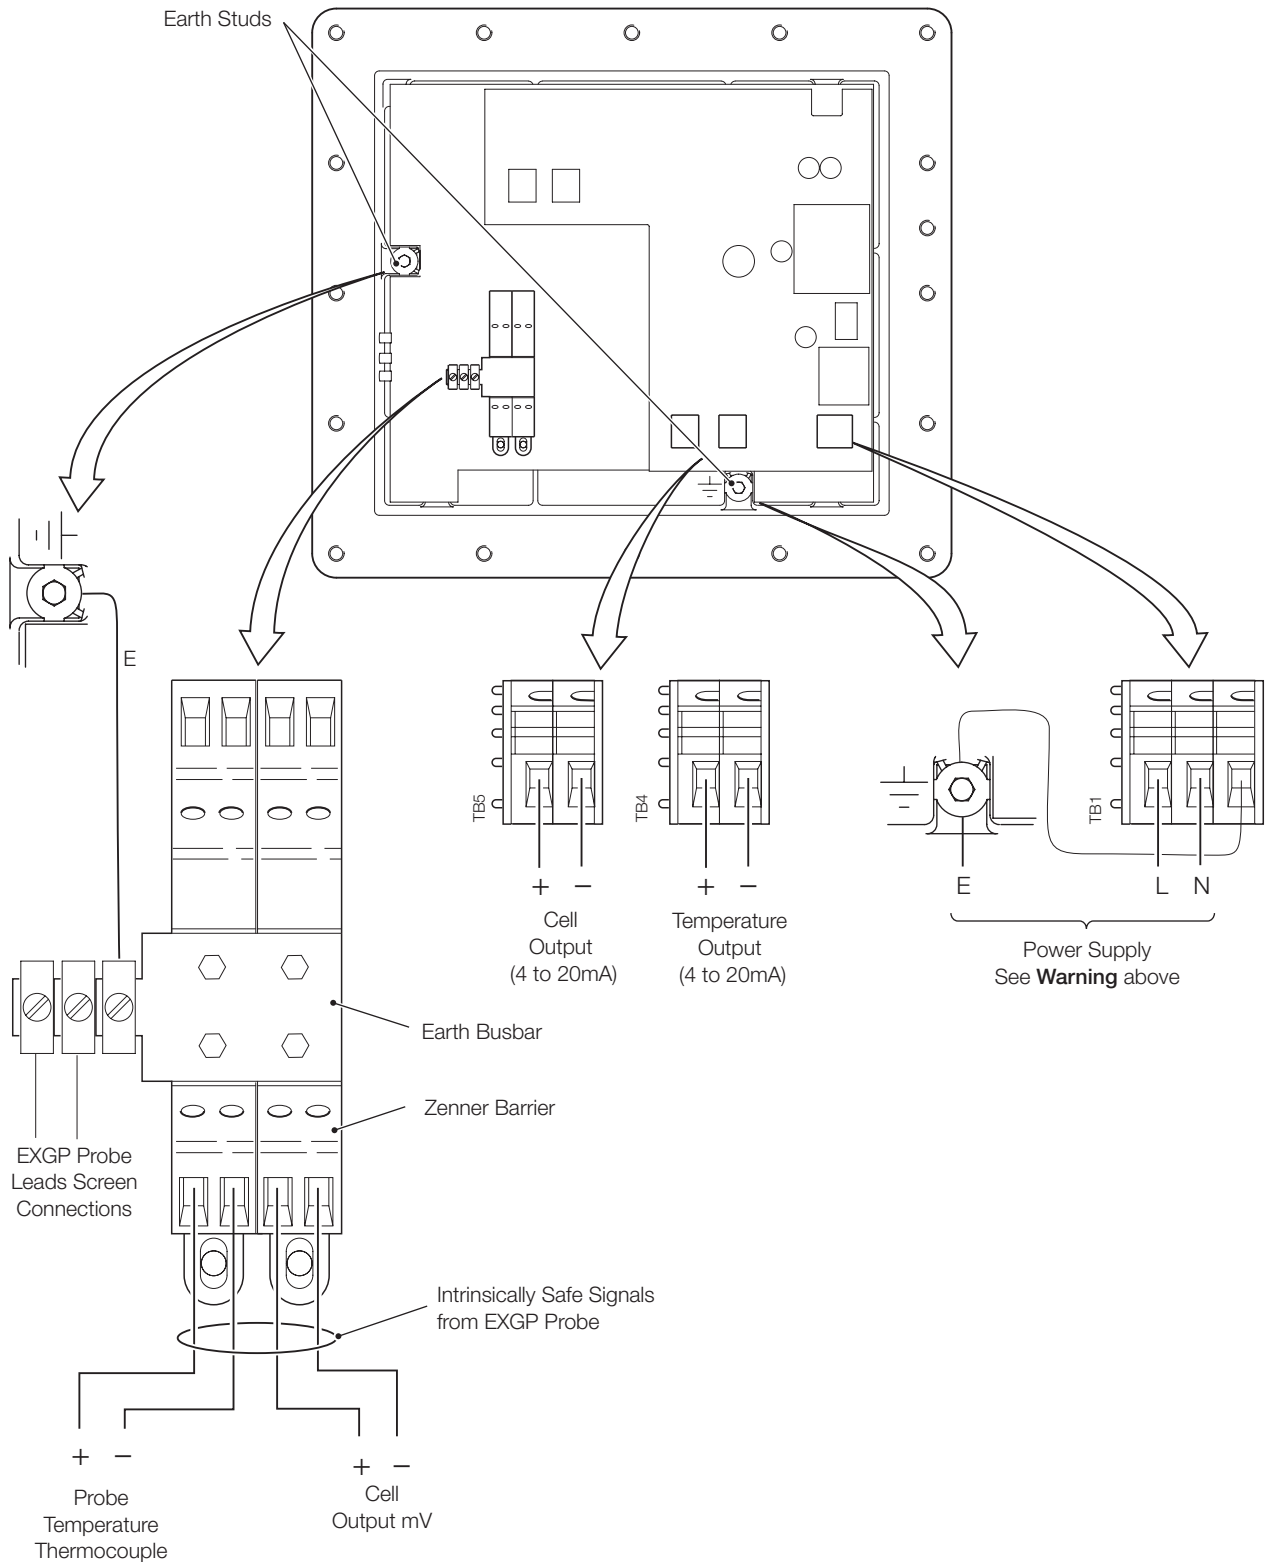

Fig. 4.4 Electrical Connections
4.5 Electrical Connections – Fig. 4.4